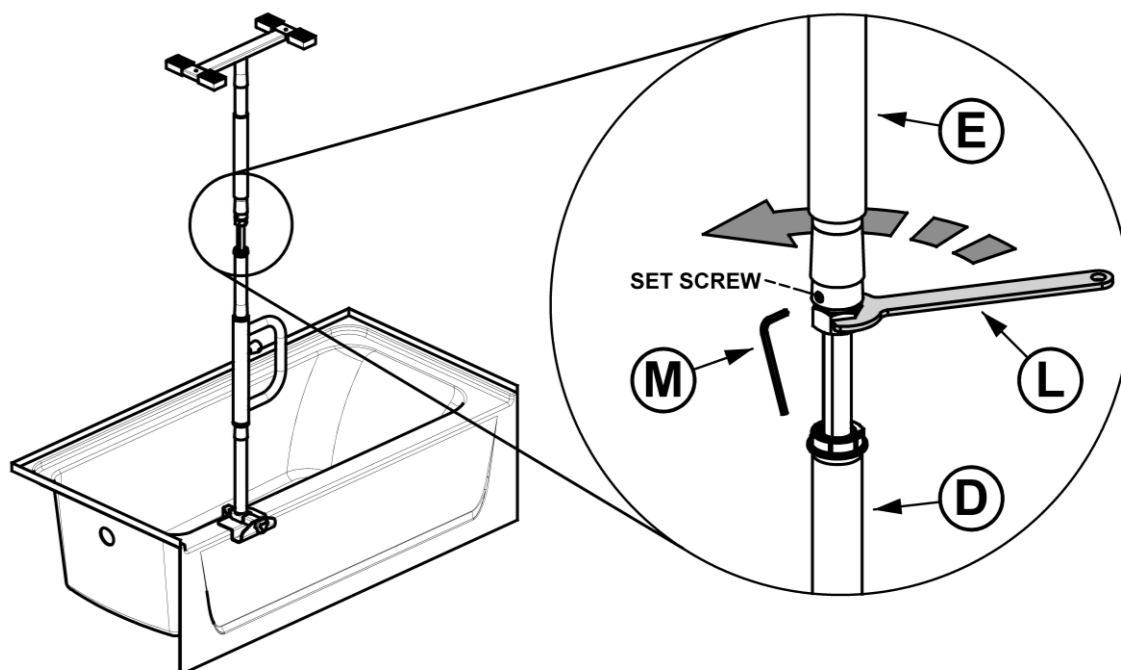

FIGURE 6
6. Ensure that the product is completely vertical. Rotate the nut on Threaded Section **D** counter clockwise using Wrench **L** as shown in *FIGURE 6*. Ensure the product is secured between the bathtub and the ceiling with ABSOLUTELY NO sliding of the product. Tighten the set screw using Tool **M** and allow Plastic Sleeve **E** to cover the threads.